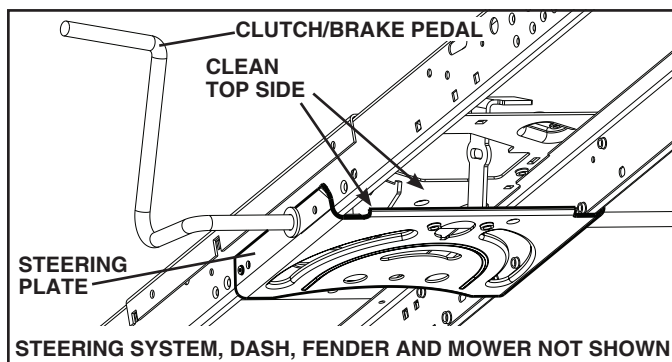

Fig. 39
- Clean debris from steering plate. Debris can restrict clutch/brake pedal shaft movement, causing belt slip and loss of drive. See Fig. 39.